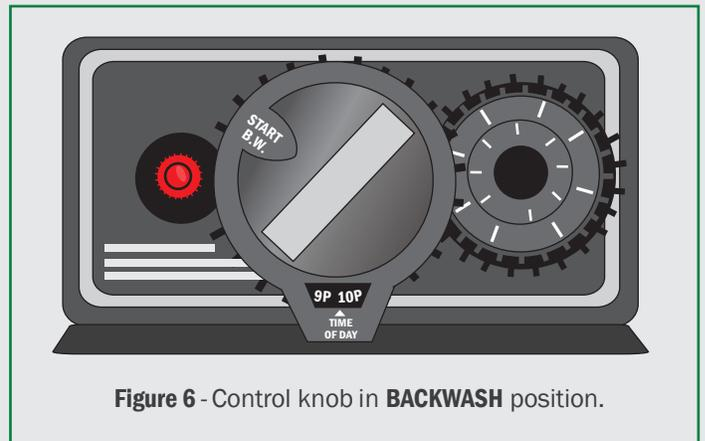

Figure 6 - Control knob in **BACKWASH** position.
5. Then turn the control knob **SLOWLY** clockwise to **BACKWASH** (approximately 12 o'clock). While turning the control knob, the water will stop running out the rinse line. Once in the **BACKWASH** position, the water will once again begin flowing out the rinse line. Stop and let it run for two or three minutes at **BACKWASH**. [See Figure 6]